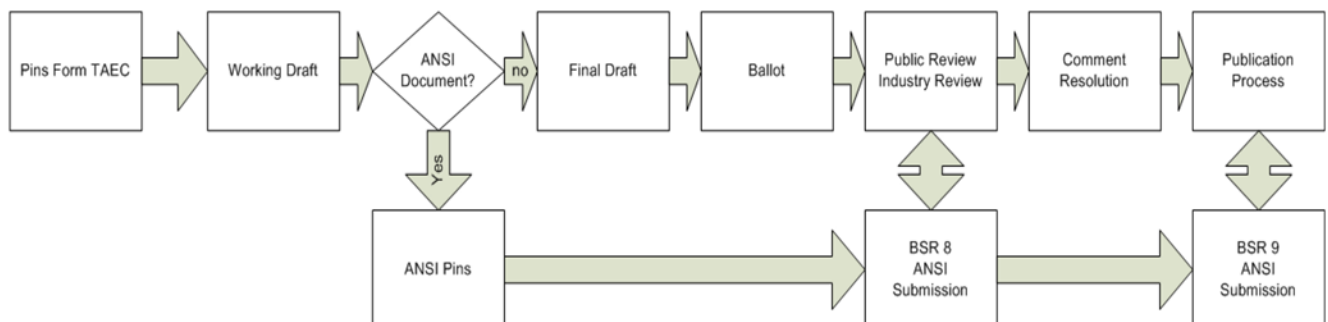

Figure 15: IPC standardization procedure [12].
- Development of a standard is a 4-stage process: working draft (WD), final draft for industry review (FDIR), proposed standard for ballot (PSB), and adoption (Figure 15)